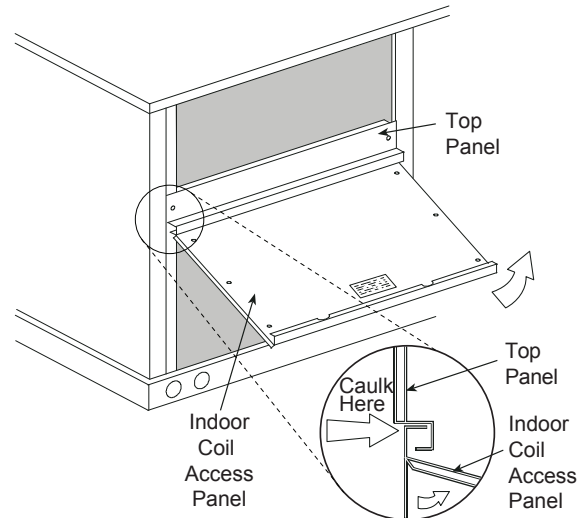

Fig. 12 — Indoor Coil Access Panel Relocation
1. The indoor coil access panel will be used as the top of the hood. Remove the screws along the sides and bottom of the indoor coil access panel. See Fig. 12.